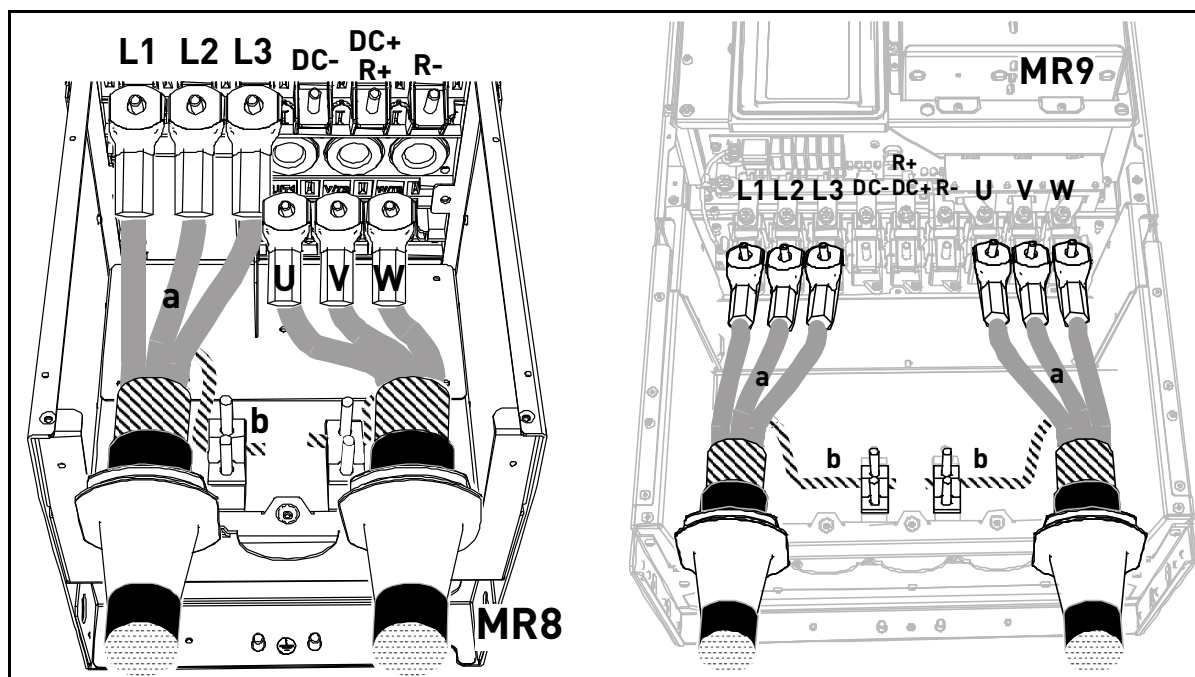

Figure 34.
- Form the rest of the cable shield of all cables into “pigtails” and make a grounding connection as shown in Figure 34 (b) using the clamp from the *Accessories bag*.